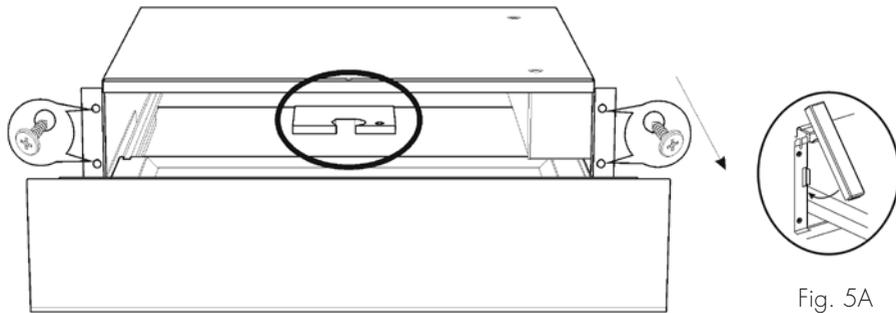

Fig. 5A
- After adjustment is complete, fasten the drawer to the unit using the side screws and then install the covers (Fig. 5A).